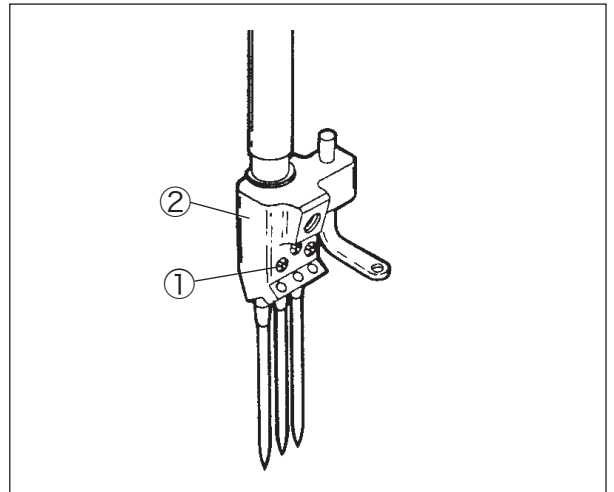
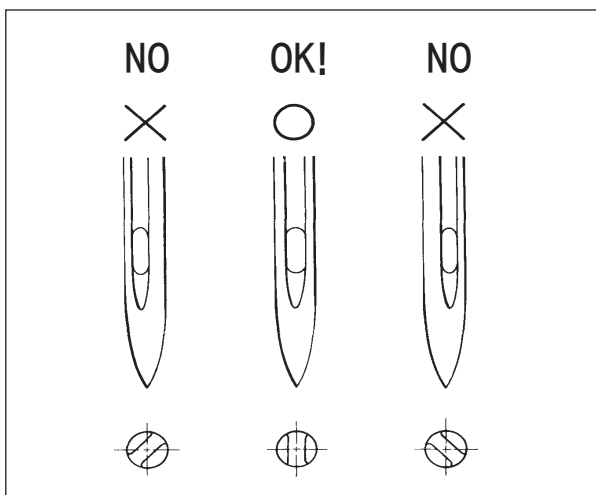

Fig. 5-1
Fig. 5-2
- (1) Loosen the screws ① with a screwdriver. (Fig. 5-1)
- (2) Remove an old needle with a pair of tweezers.
- (3) Insert a new needle into the needle clamp ② as far as it will go with facing its scarf to the right back. (Figs. 5-2 and 5-3)
- (4) Tighten the screws ① with a screwdriver.